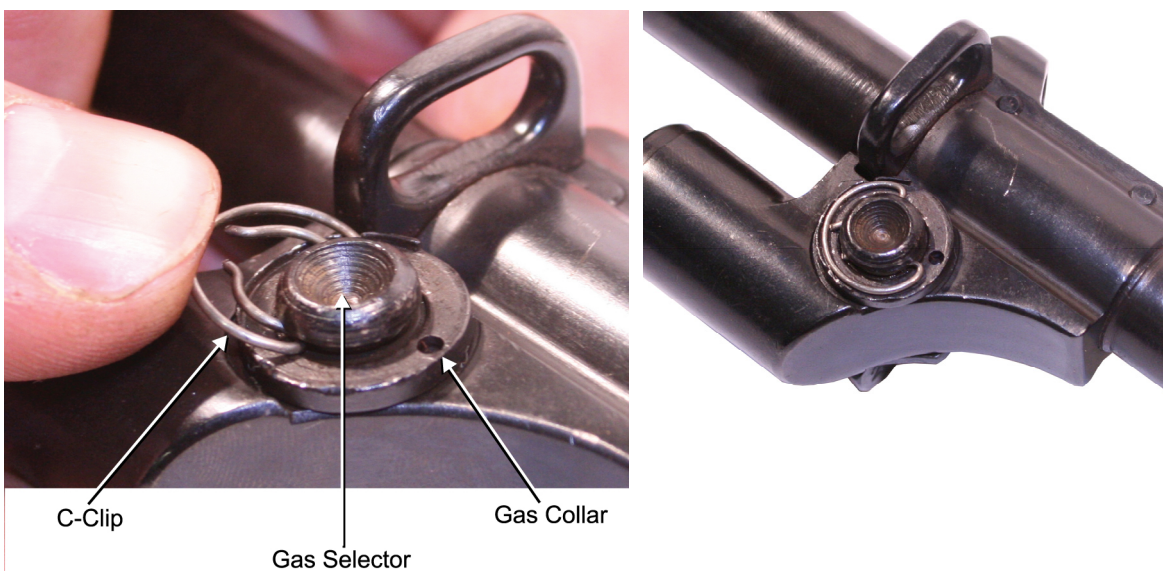

Figure 77. Installing the C-Clip and the C-Clip Installed.
- c. Install the C-clip on the left side of the gas block by pushing the open end of the C-clip against the end of the gas selector until it is seated around the end of the gas selector. Refer to Figure 77.